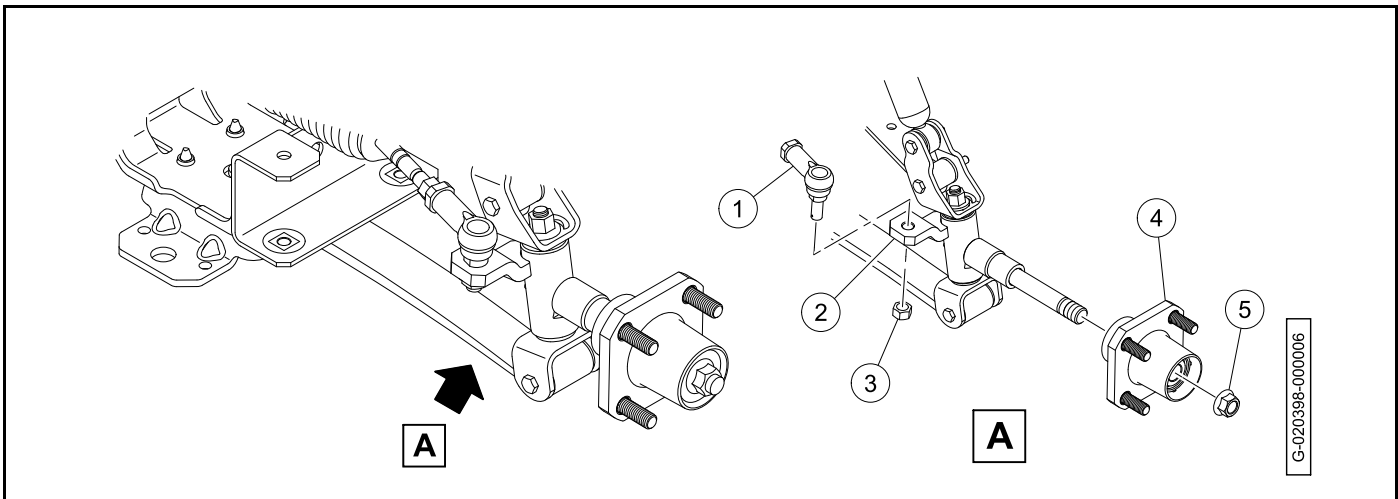

Figure 7-19
3. Install the bolt (2). Tighten the bolt to 30 lb·ft (41 N·m).
4. Install the wave washer (3) on the kingpin.
5. Install the spindle (4) on the kingpins.
6. Put the upper clevis (5) over the kingpin threads and install nuts (6). Tighten the nuts to 70 lb·ft (95 N·m).
7. Install the tie rod end (1) to the spindle tab (2) (**Figure 7-19, Page 7-16**).